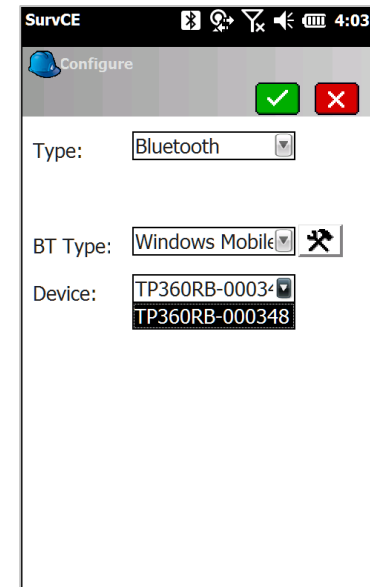

Figure 4
5. Tap the Comm Setup button and choose Type: Bluetooth; BT Type: Windows Mobile; and select your laser from the list under Device (Fig.4).